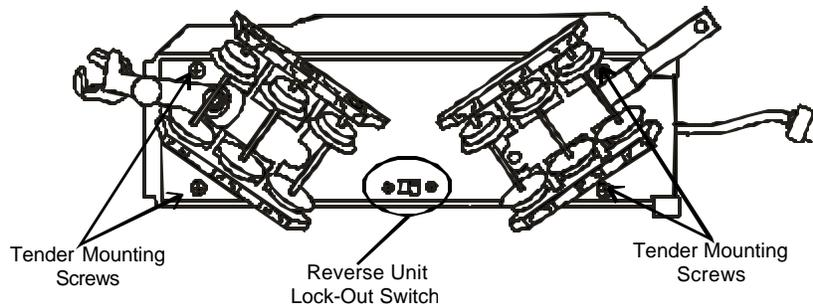
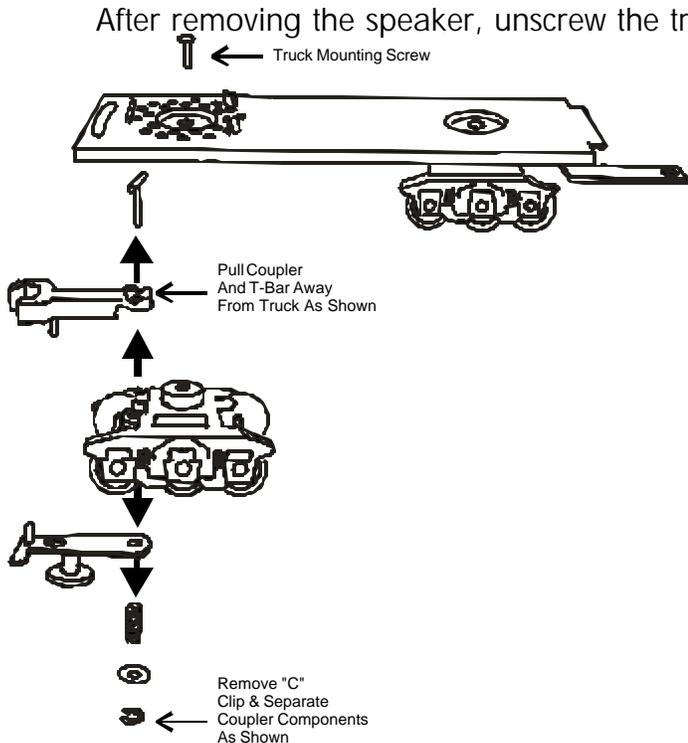

Figure 4: Reverse Unit Lockout Switch Location
Figure 10: Removing The O Gauge Coupler
The reverse units can be locked into any of the three phases by entering the desired phase using the transformer throttle or directional button and then switching the ON/OFF switch located under the tender chassis (see Fig. 4) to the OFF position. To enter the normal phase again, simply turn the switch to the ON position. After an hour or more of non-use, the reverse unit will cycle into any of the three positions and the ON/OFF switch must be set to ON in order for the engine to operate correctly.
It is possible to replace the standard O Gauge operating die-cast coupler with a tinfoil style Box Coupler by following the simple instructions below as seen in Figures 10 and 11. You will need to remove the tender body from the tender chassis before removing the trucks. The tender body is held in place by four Phillips screws. The screws are located in each corner of the chassis as seen in Fig. 4 on page 3.
Once the body mounting screws are removed, the chassis can be pulled away from the tender shell. The electronic whistle speaker must be removed to reveal the truck mounting screw as indicated in Figure 10 and 11.
- 1) Remove the steam engine tender body from its chassis by removing the four mounting screws located in each corner of the chassis as seen in Figure 4 on page 3.